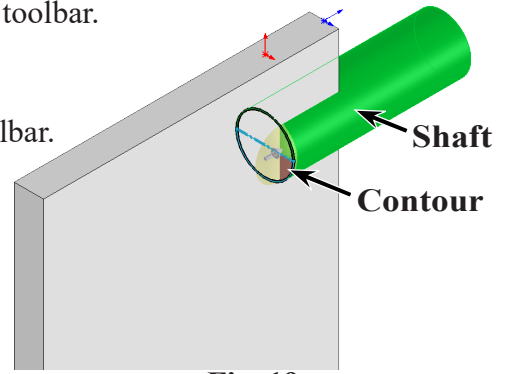

Fig. 19
- under Selected Contours click the **contour**, **Fig. 19**